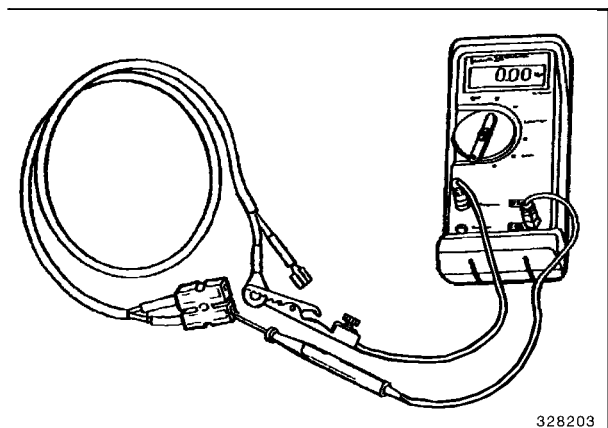

Fig. 4
2. Checking with the multimeter (Fig. 4)